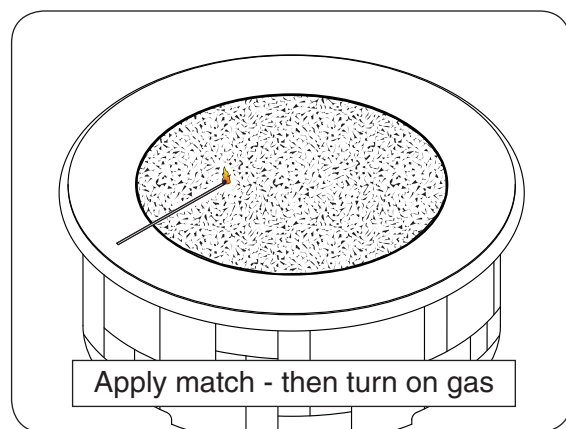

Fig. 39-1
3. Lay a lighted match on the surface of the decorative media near the burner (**do not hold the match in your hand**) (Fig. 39-1).